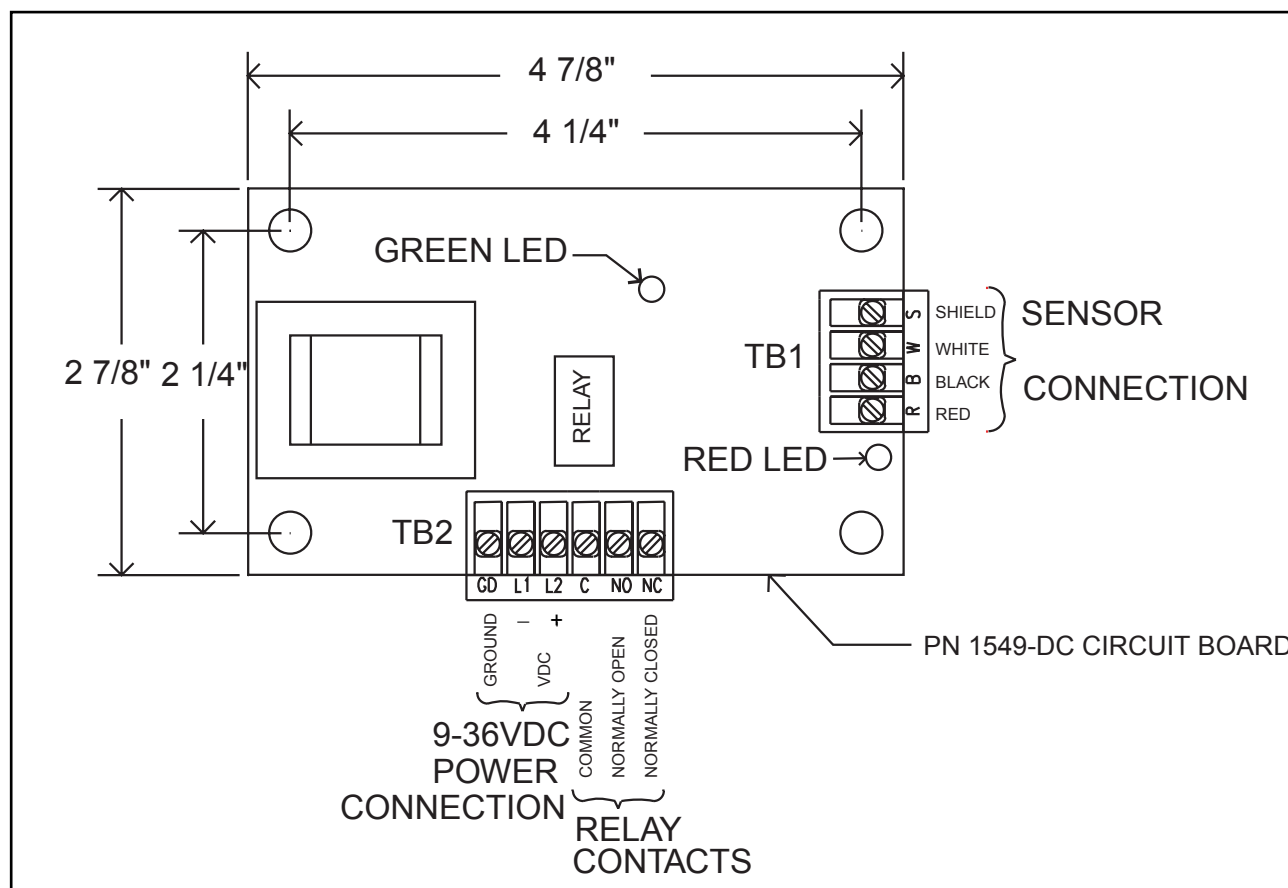
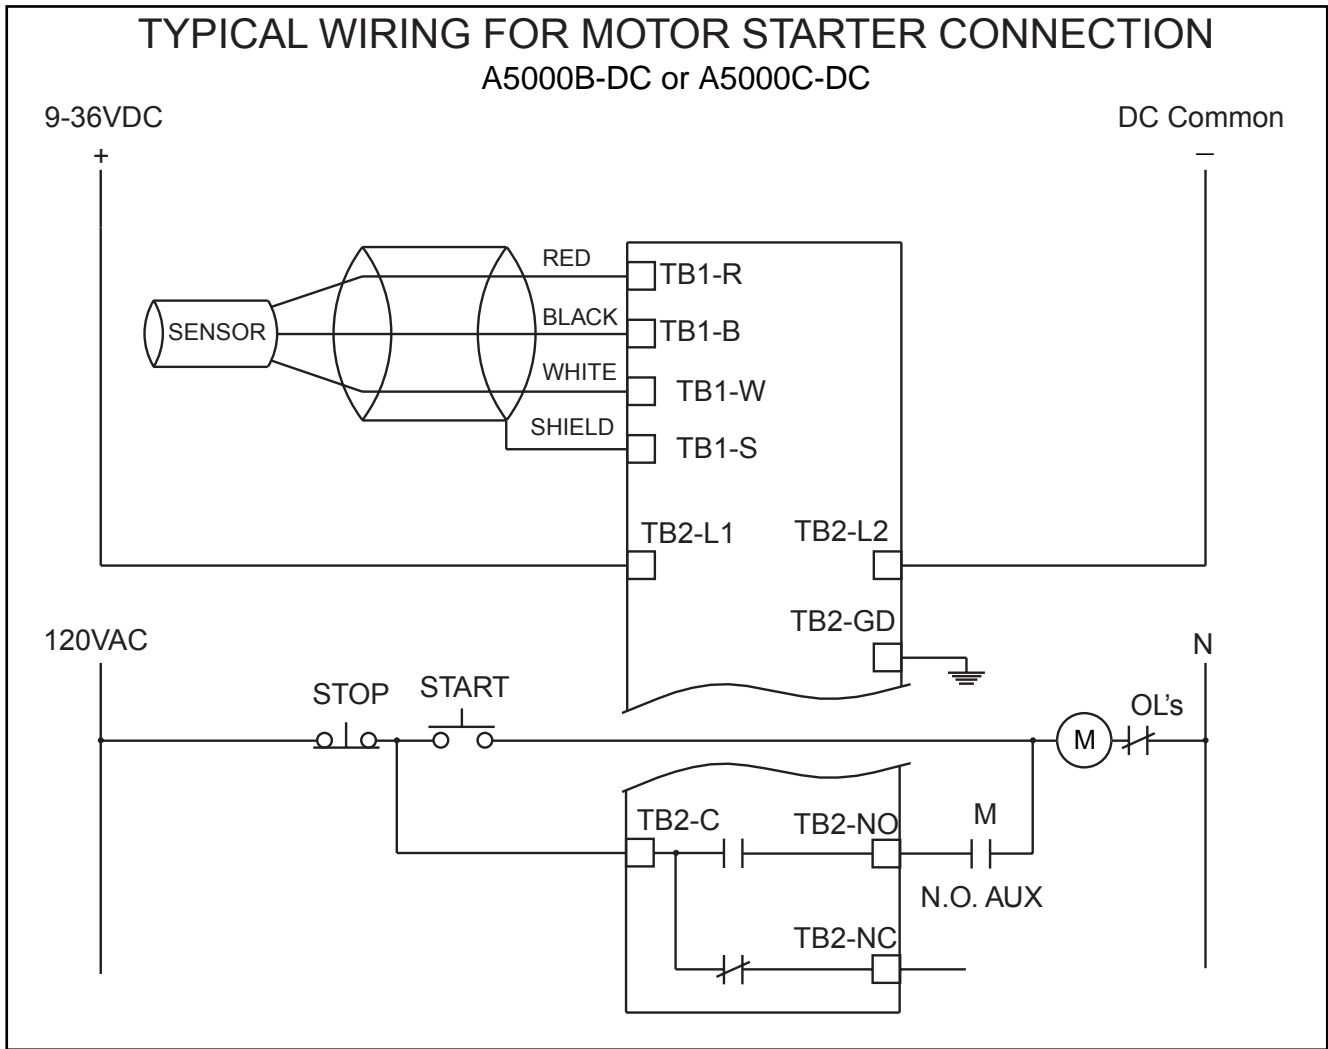

Figure 5
Figure 6
5.1 Power connections and relay connections to the A5000B-DC zero speed switch are shown on figure 5, page 5. Also, figure 6 & 7, page 6 & 7 show typical wiring diagrams.
5.2 Connect 9-36 VDC power to L1 and L2 on terminal block TB2. Connect the equipment safety ground to the ground (GD) terminal on terminal block TB2. (see figure 5, page 5)
5.3 Make relay connections to appropriate terminals on terminal block TB2. (see figure 5, page 5)